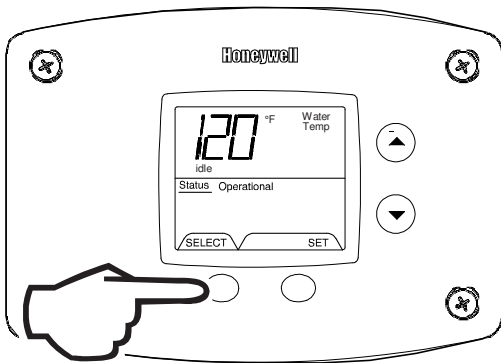

Fig. 44
1. In Service Mode, Press the 'Select' button until 'Water Temp' is displayed in the upper right section of the water heater display. For water heaters using two temperature sensors in the tank, this will be the average reading between the two sensors. For water heaters using a single sensor, this is the reading for the sensor (Fig. 44).